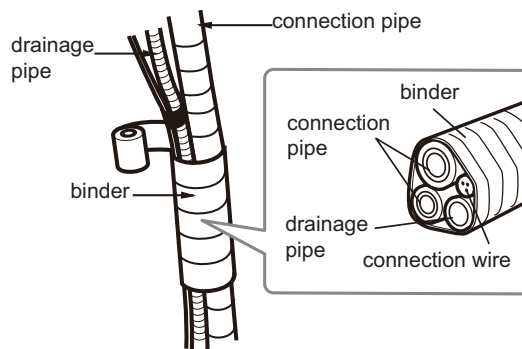

Fig.21
1. Bind the connection pipe, connection wire and drainage pipe together with binder.(As show in Fig.21)